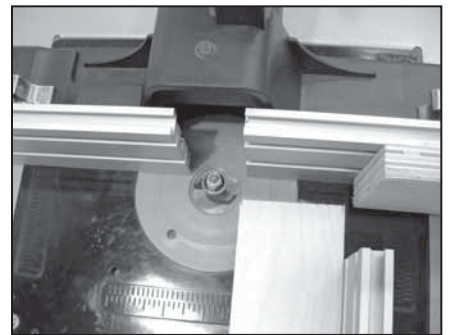

Figure 24
3. Position the miter gauge into the miter slot. Place the material against the miter gauge, and use the infeed side of the fence as a bump stop to set the depth of cut. The aluminum miter gauge face should be adjusted so as not to contact the router bit. See Figure 24.